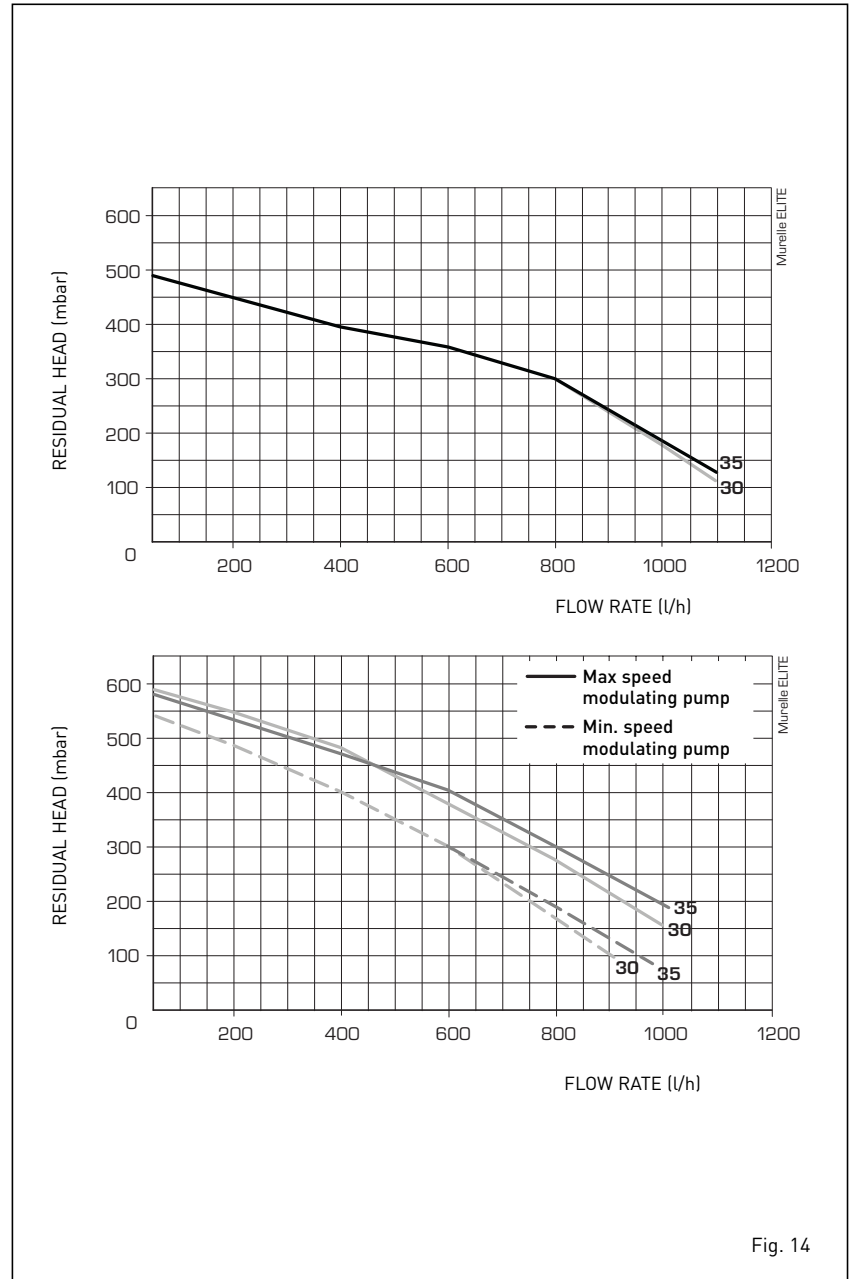

Fig. 14
3.8 HEAD AVAILABLE TO SYSTEM (fig. 14)
shown as a function of rate of flow in the graph in fig. 14.